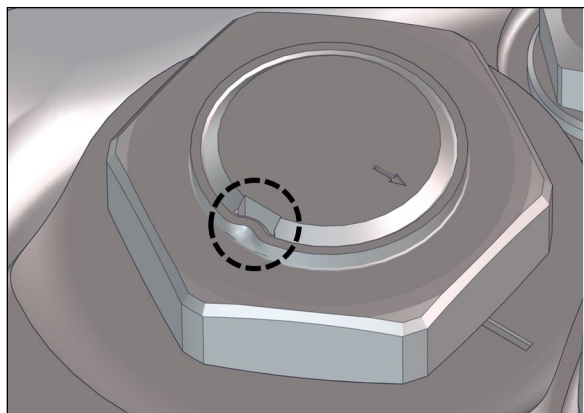

FIGURE 12
1. To unscrew and remove the steering gear sector shaft nut, first, using a cold chisel, undo punch mark that locks the sector shaft nut (Figure 12).